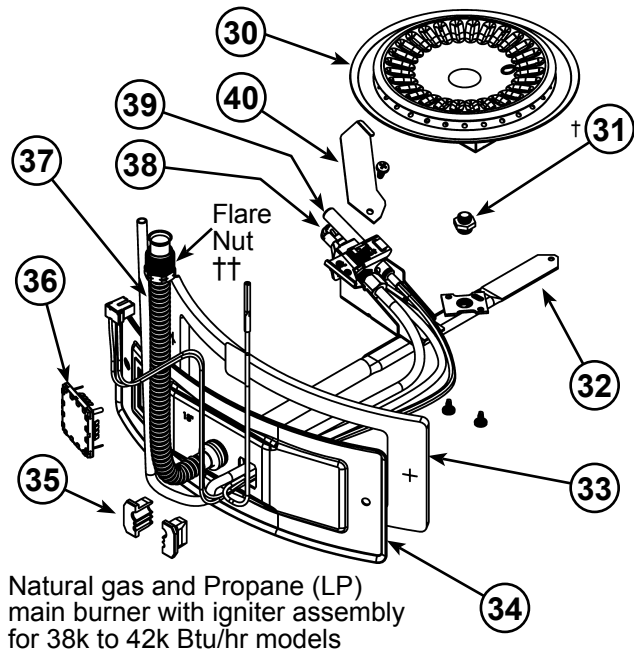
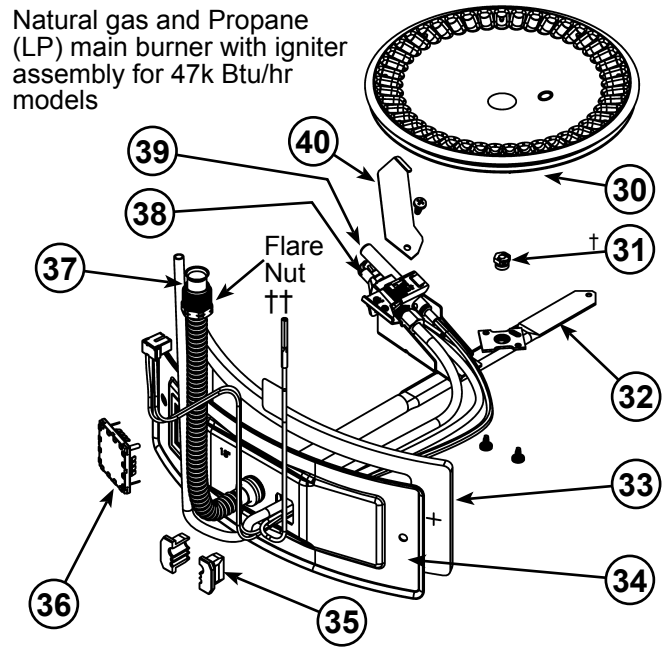

Figure 46
Figure 47
- 12 Manifold Door Assembly (behind outer door) (see Figure 3 & Figure 4) (see also **Figure 46 & Figure 47**)
- 15 Flexible Manifold Tube (see Figure 3 & Figure 4) (see also **Figure 46 & Figure 47**)
- 30 Sheet Metal Burner (see Figure 3 & Figure 4) (see see also **Figure 46 & Figure 47**)
- 31 Gas Orifice (see Figure 3 & Figure 4) (see also **Figure 46 & Figure 47**)
- 32 Gas Manifold (see Figure 3 & Figure 4) (see also **Figure 46 & Figure 47**)
- 33 Manifold Door Gasket (see Figure 3 & Figure 4) (see also **Figure 46 & Figure 47**)
- 34 Manifold Door (see Figure 3 & Figure 4) (see also **Figure 46 & Figure 47**)
- 35 Two Piece Grommet With Clip (see Figure 3 & Figure 4) (see also **Figure 46 & Figure 47**)
- 36 Viewport (see Figure 3 & Figure 4) (see also **Figure 46 & Figure 47**)
- 37 Flexible Manifold Tube (see Figure 3 & Figure 4) (see also **Figure 46 & Figure 47**)
- 38 Pilot (see Figure 3 & Figure 4) (see also **Figure 46 & Figure 47**)
- 39 Thermopile (see Figure 3 & Figure 4) (see also **Figure 46 & Figure 47**)
- 40 Pilot Shield (see Figure 3 & Figure 4) (see also **Figure 46 & Figure 47**)